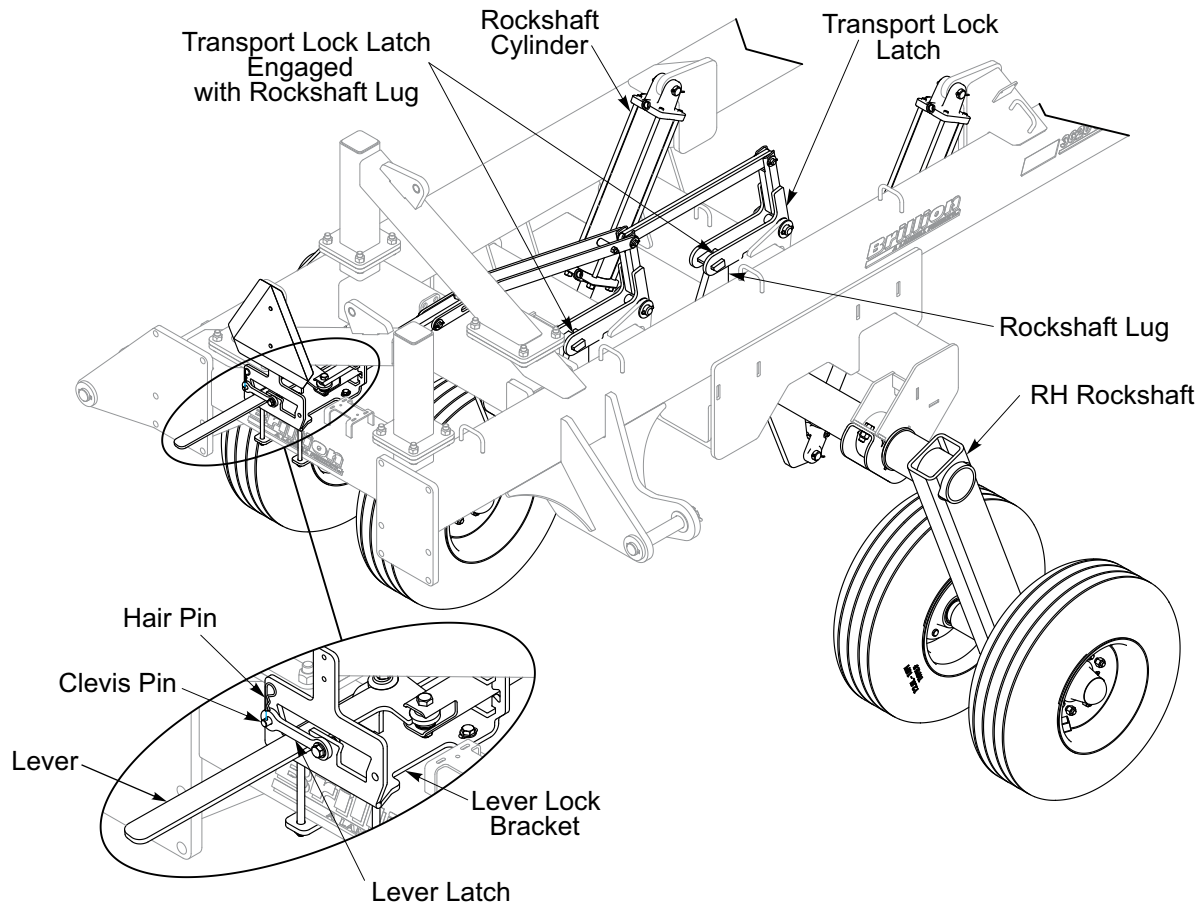

Figure 3-7: Transport Lock Position - Transport
2. Actuate the Lever by sliding the Lever in the Lever Bracket to the Transport Lock Position. The Transport Lock Latch should be over the Rockshaft Lock Lug. **See Figure 3-7.**